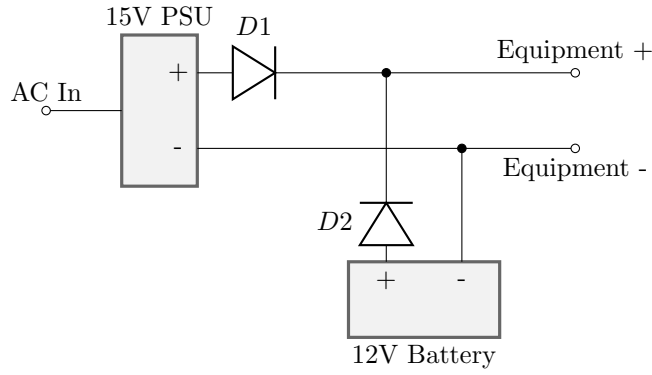

Figure 7: Power Steering with Diodes.
In some applications, the system may have dual power options, such as a battery or wall adapter. Often the wall adapter is used to charge the battery, during which time we may wish to power the system from the wall adapter to better allow the battery to charge. The simplest approach is to use steering diodes, as shown in Figure 7.
1. Construct the circuit in Figure 7 using the two 1N4148 diode, a $1K\Omega$ resistor for the load, and 2 power supplies for the AC IN and battery. Adjust the power supplies independently between 2V and 6V and record the load voltage.